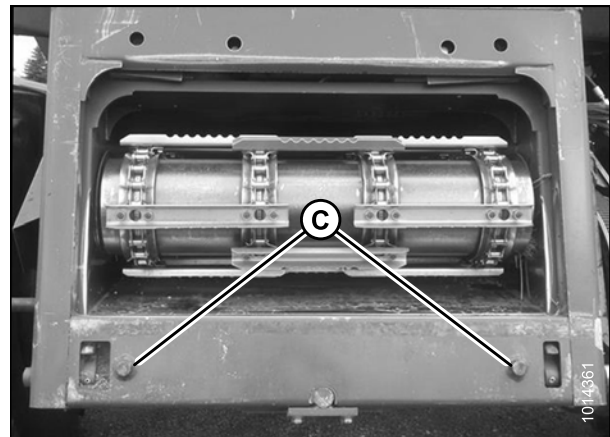

Figure 4.3: AGCO Group Alignment Pins
2. Start the engine and slowly approach the header until the feeder house is directly under the float module top cross member (A) and the alignment pins (C) (refer to Figure 4.3, page 64) on the feeder house are aligned with the holes (B) in the float module frame.